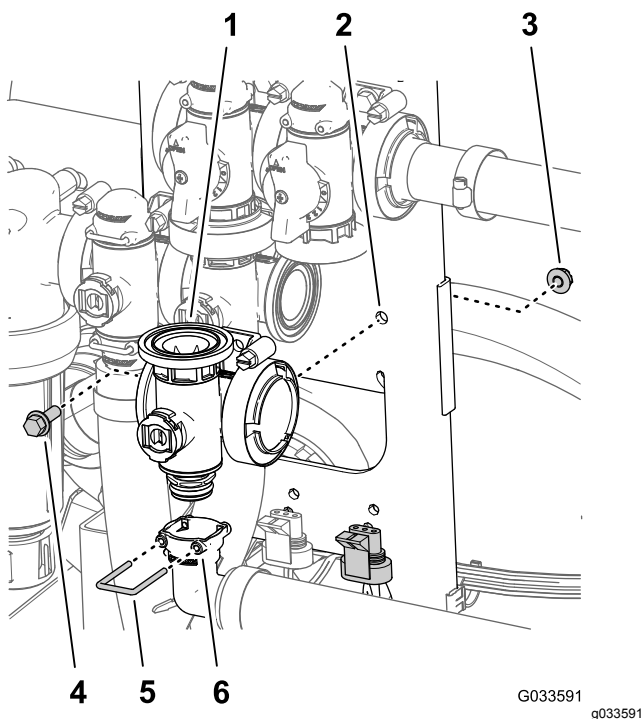

Figure 130
5. Align the socket of the 90° outlet fitting onto the coupling fitting at the at the bottom of the manifold for the master-boom valve (Figure 130).
6. Secure the outlet fitting coupling fitting by inserting a retainer into the socket of the outlet fitting (Figure 130).